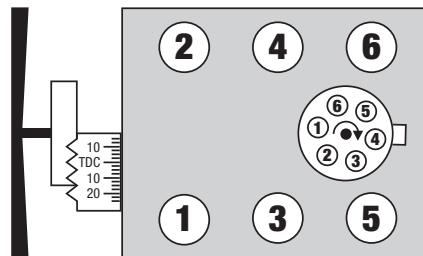

Figure 2- Chevrolet/GMC 4.3L V6
2. The above procedure assures correct lifter pre-load. Repeat this procedure for each of the other seven cylinders by rotating the engine 120° and following the firing order (1-6-5-4-3-2). **See Figure 2.**